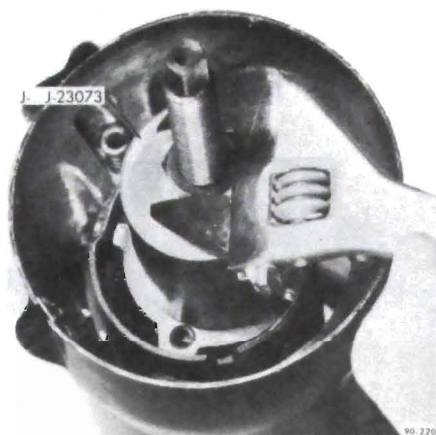

Figure 90-148 - Installing Shift Tube
10. Carefully install shift tube in lower end of mast jacket. Align keyway in tube with key in bowl and using Installer J-23073, pull shift tube into bowl. See Figure 90-148.